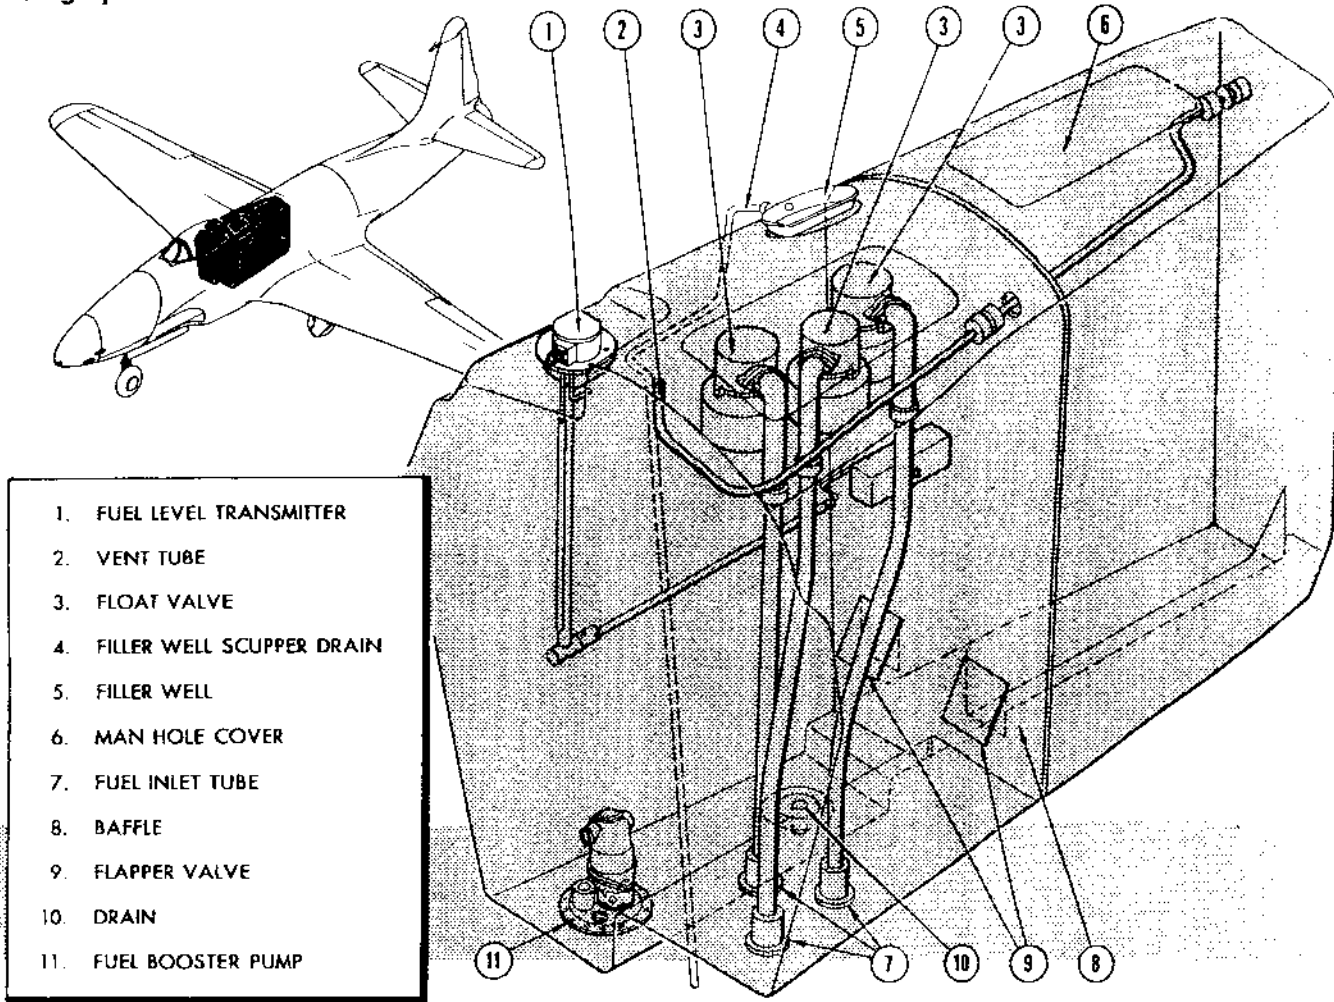

Figure 105 — Fuselage Tank
(5) FUSELAGE TANK. (See figure 105.)